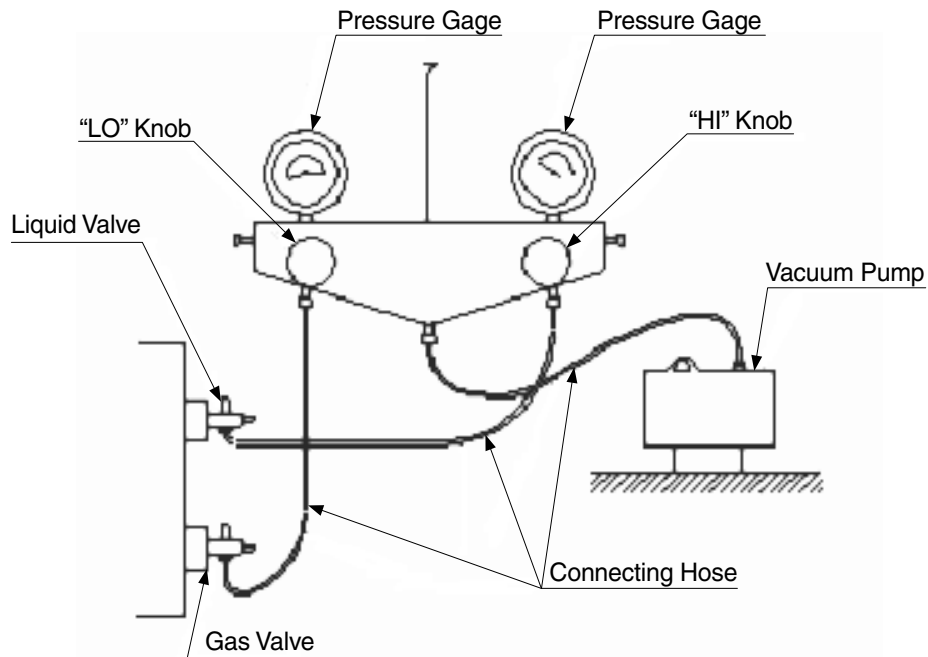

Fig.9.14
10. If possible, use a vacuum pump to release air out of the valve. Refer to Fig. 9.14.